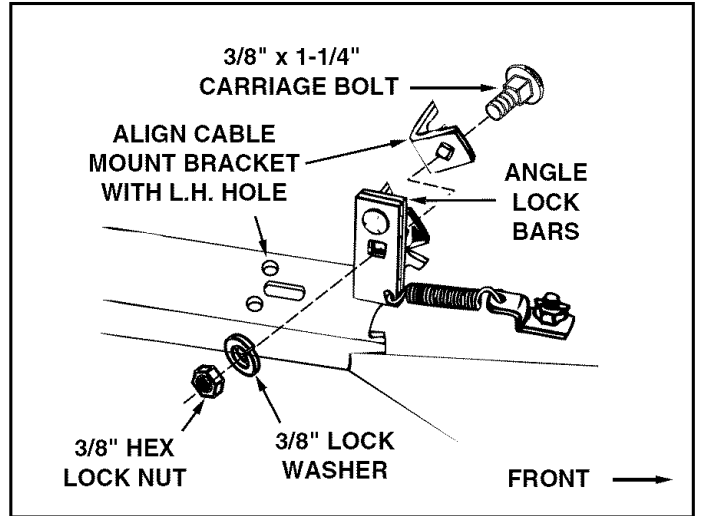
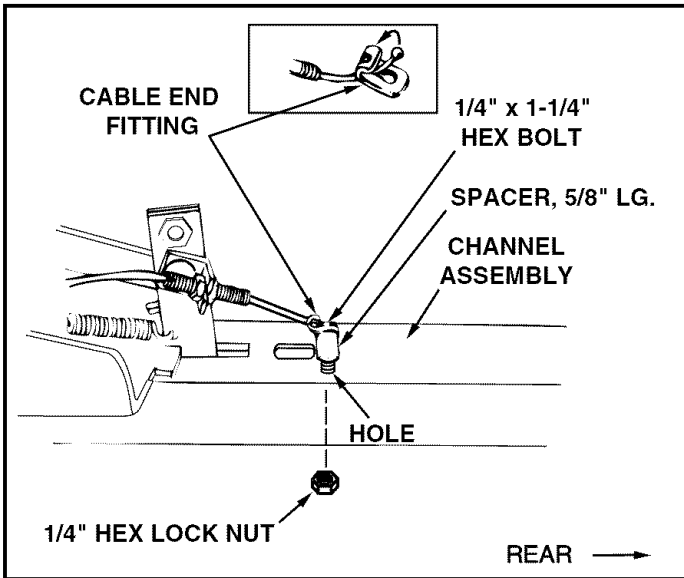

FIGURE 10 (Right Hand Side View)
FIGURE 12 (Left Hand Side View)
- Assemble a 3/8" x 1-1/4" carriage bolt through the square hole in the cable mount bracket and through the square hole in the angle lock bars as shown in figure 10. (The carriage bolts should face in opposite directions.) Using pliers hold the cable mount bracket in position, angling down towards the L.H. hole in the channel as shown in figure 10. Secure with a 3/8" lock washer and a 3/8" hex lock nut. **Tighten**. See figure 10. Refer also to figure 12 for the correct angle for the cable mount bracket.
- Assemble ball end of control cable up through hole in cable end fitting and pull until ball slips inside curled edge of fitting as shown in figure 12. If ball won't slip under edge of curl it will need to be inserted through open end of curl. See figure 12.
- Assemble 1/4" x 1-1/4" hex bolt down through the cable end fitting, the 5/8" long spacer and the left hand hole in the channel assembly. Secure with a 1/4" nylon lock nut. See figure 12. **Tighten.**
NOTE: Make sure the cable mount bracket is aligned with the cable end fitting as shown in figure 12 to prevent binding of cable. The other end of the control cable will be attached in a later step.